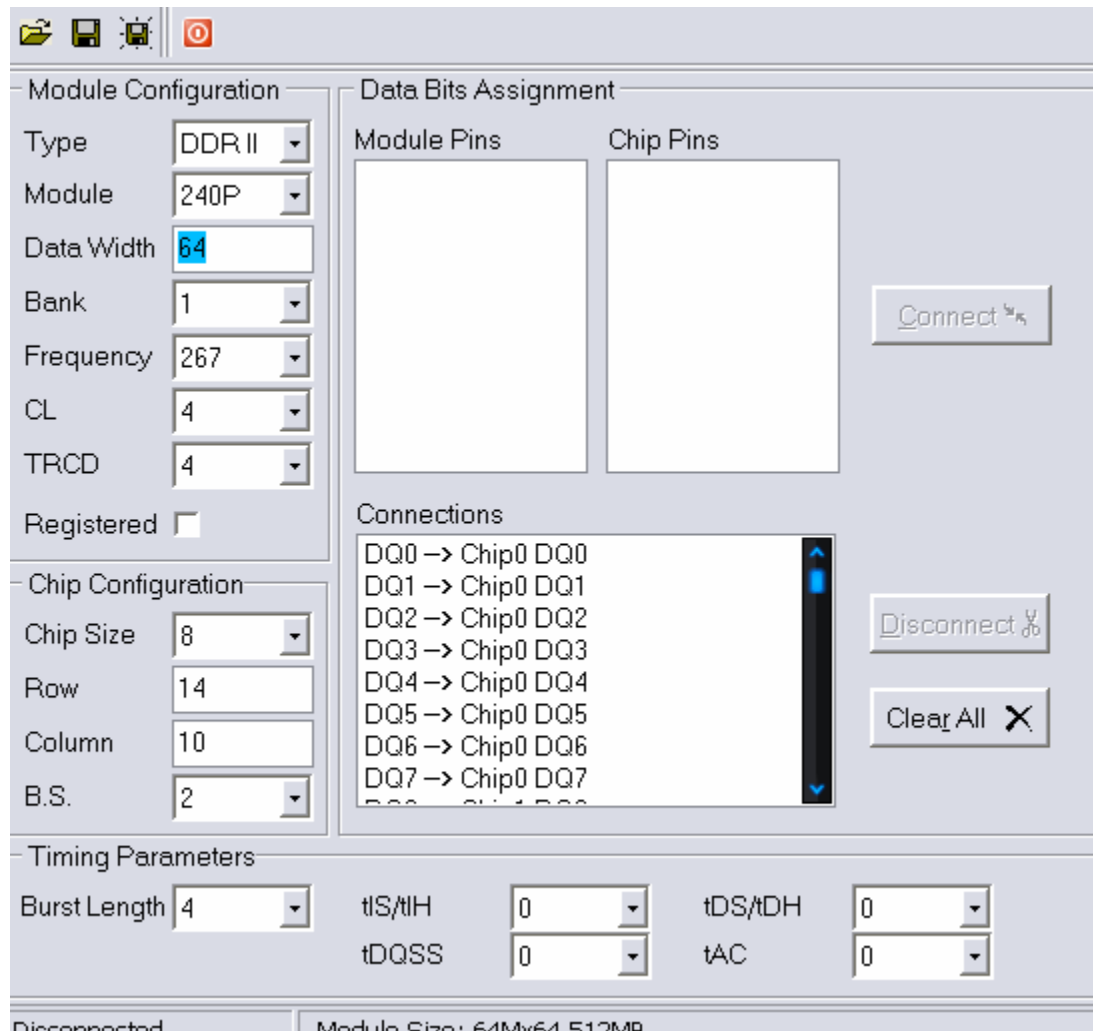

Fig. 32
Step 2: On the next window, user is ready to configure the module. (Fig. 32)